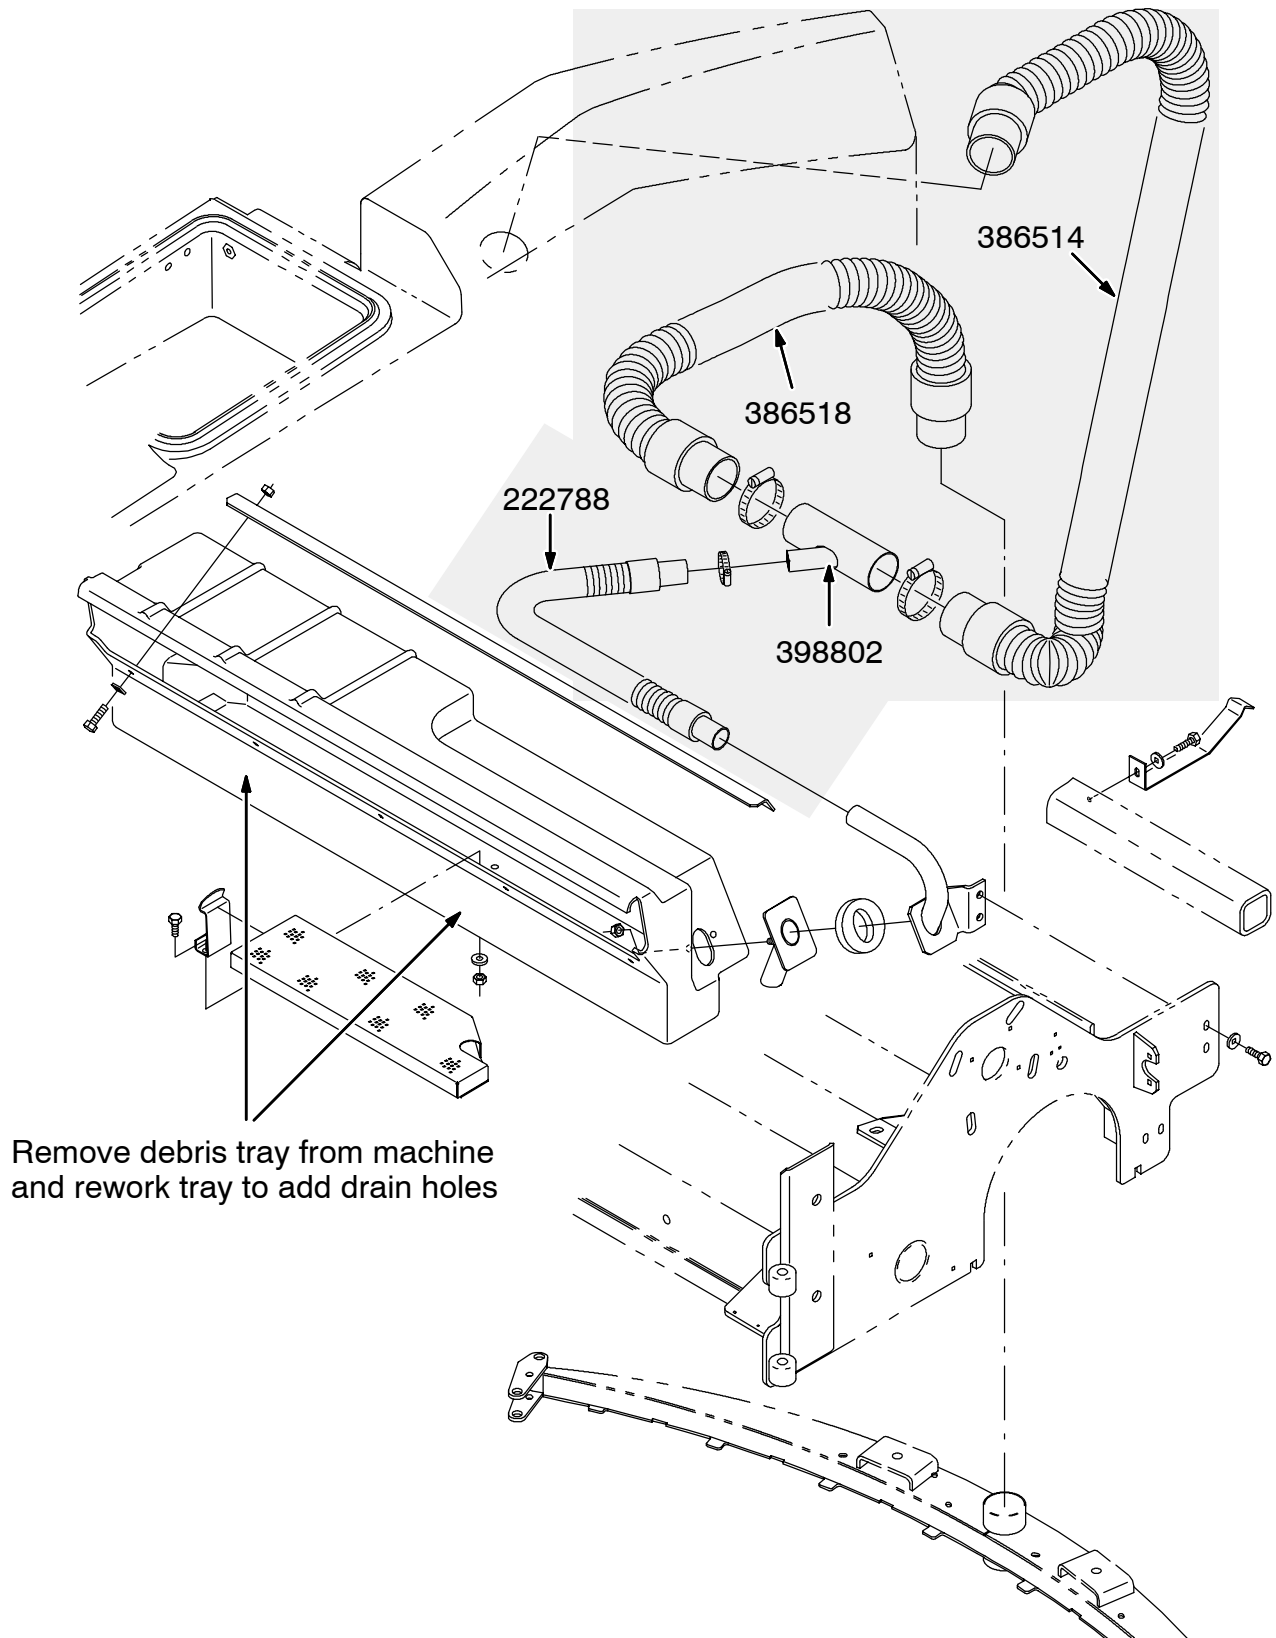

FIG. 1 - Vacuum Hose Removal
(Refer to FIG. 1, 2 and 3)
1. Remove the debris trough from the right hand side of the machine. (Refer to FIG. 1)
4. Disconnect the top end of vacuum hose 386514 from the recovery tank. Disconnect the bottom end of vacuum hose 386514 from tube 386518 under the machine. Discard vacuum hose 386514 from the machine. (Refer to FIG. 1)